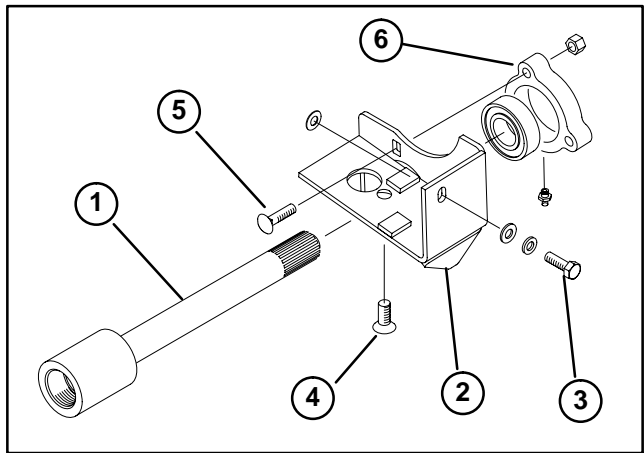

Figure 8
B. Slide traction shaft through bearing bracket, aligning the (2) bearing bracket mounting holes with the holes in side and bottom of hydrostatic (Fig. 8).
C. Mount side of bracket to hydrostat with a capcrew, lockwasher, flat washer and 1 or 2 shims (Fig. 8).